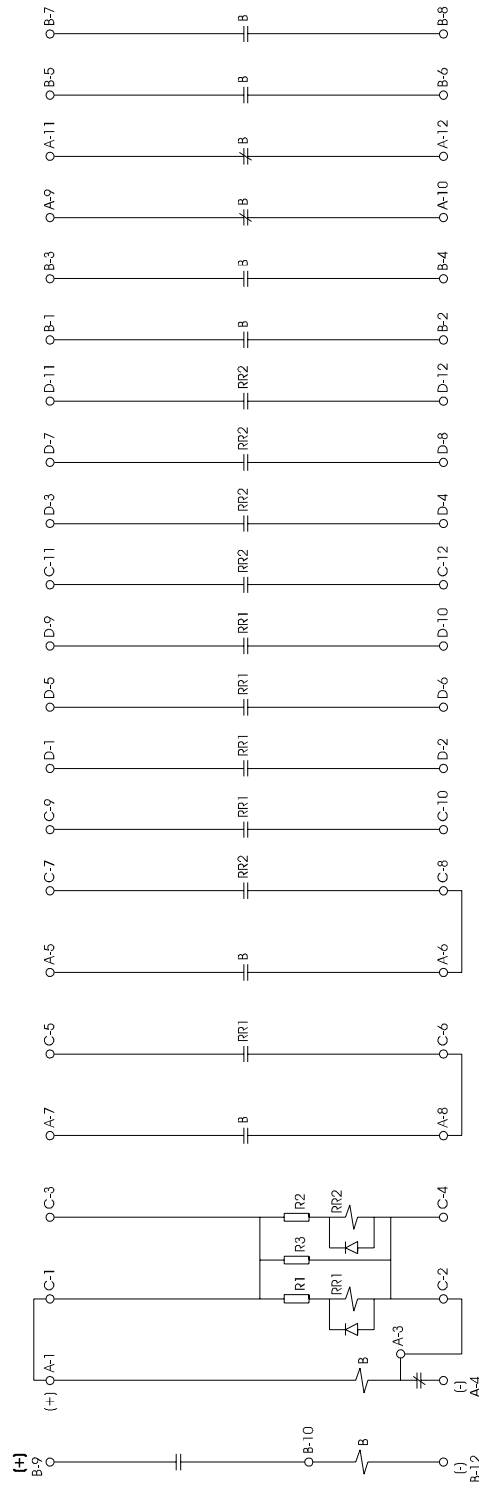

FIGURE 1: EXTERNAL CONNECTIONS DIAGRAM FOR RDB86A1A
Pre-wire the coils, using the indications from the internal connections diagrams (Figures 1 to 6).
- Figure 1:** External connections diagram for RDB86A1A